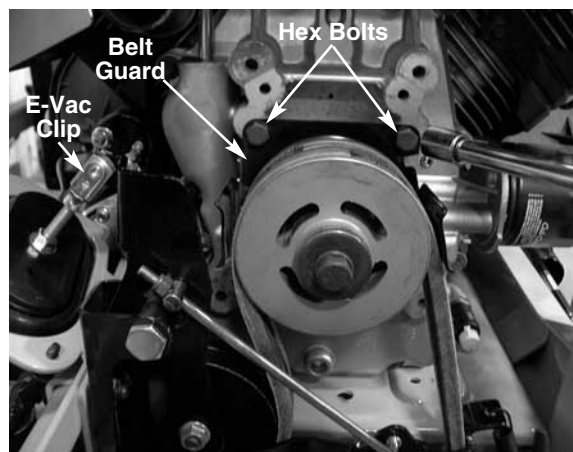

FIGURE 8.
18. Remove both of the hex bolts securing the belt guard to the engine using a 13mm socket and extension. See figure 8.
19. Remove the E-vac clip. See figure 8.